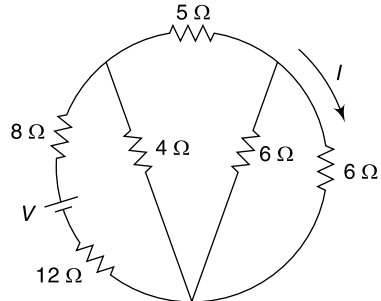

Fig. 4.178
17. For the network shown in Fig. 4.178 find V which makes $I = 7.5$ mA.